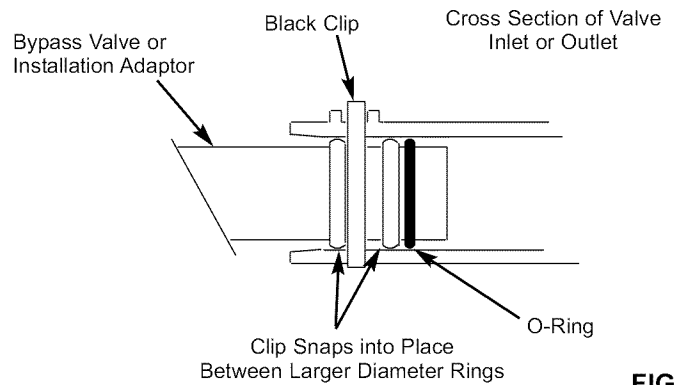

FIG. 11
7. Push the bypass valve into the softener valve as far as it will go. **Snap the two large holding clips into place, from the top down as shown. See Fig. 11.**
**CAUTION:** Be sure the clips snap firmly into place so the bypass valve will not pull out. See Fig. 11.
8. Put a light coating of silicone grease on the o-ring seals and slide into the threaded adaptors. Push the adaptors into the valve inlet and outlet ports, or bypass valve ports, as far as they will go. Both adaptors are the same and fit either port. **Snap the two large holding clips into place, as shown. See Fig. 11.**
**CAUTION:** Be sure the clips snap firmly into place so the tubes will not pull out. See Fig. 11.